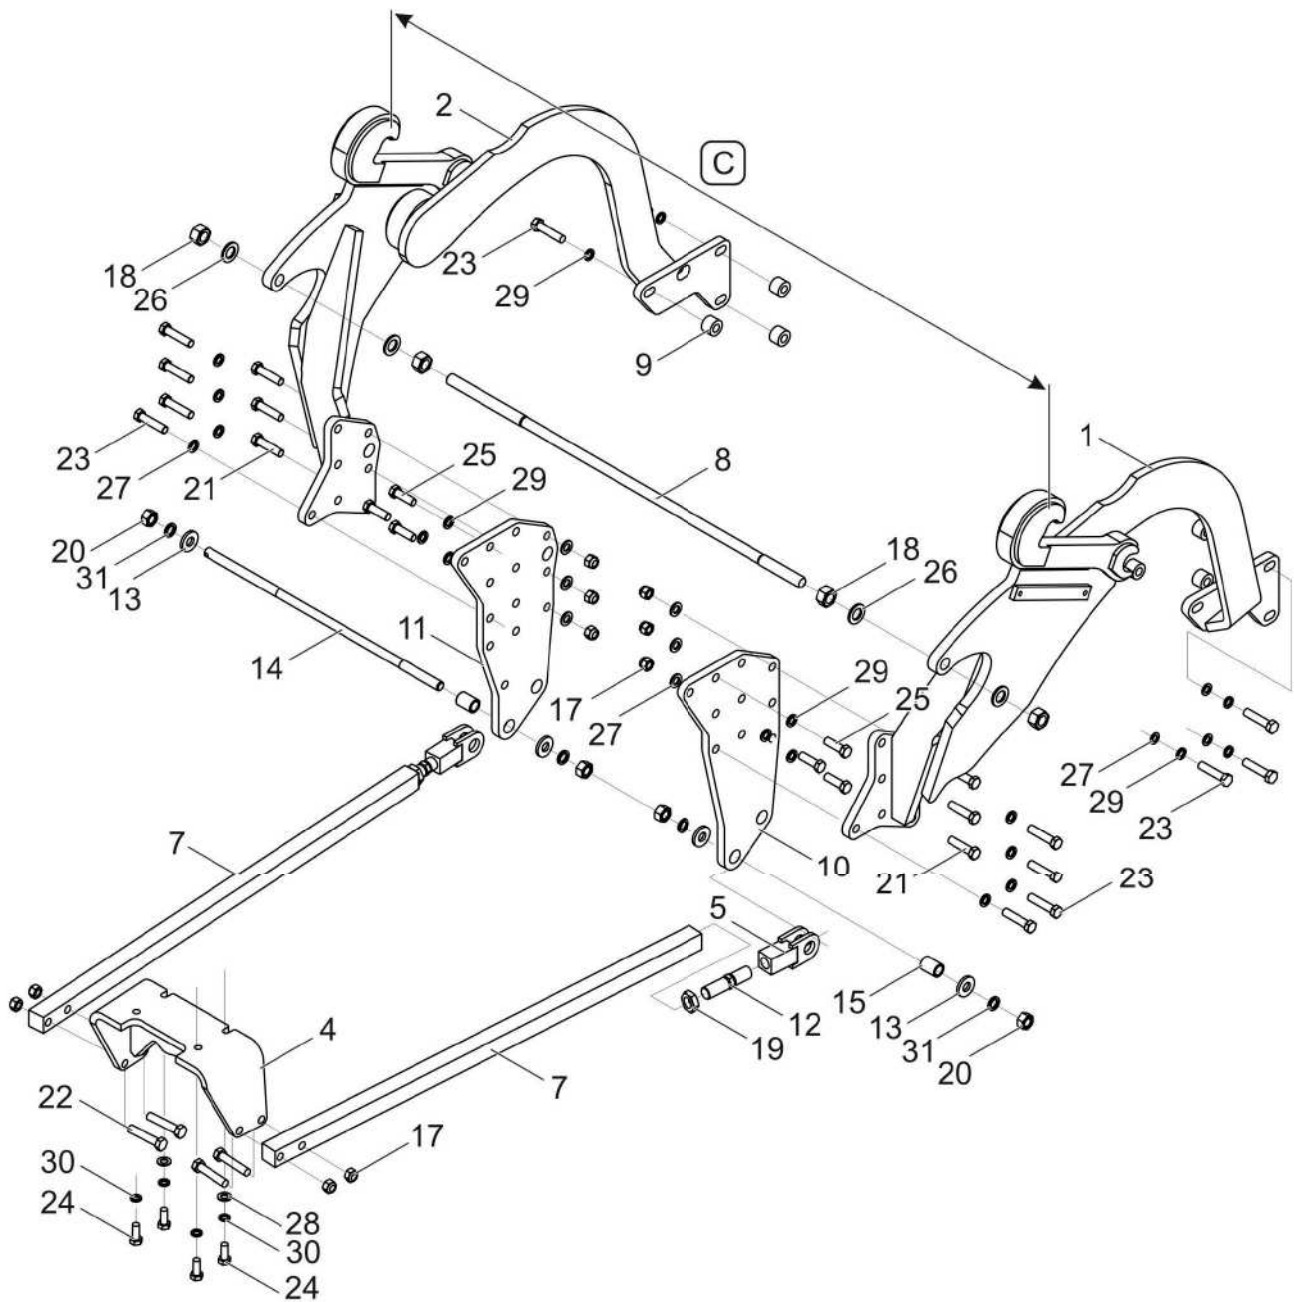

FIG. 4.2A **Mounting bearing frame on Pronar 5110/5130 tractors**
(1)- right bracket; (2)- left bracket; (4)- brace bracket; (5)- brace rod eye; (7)-brace rod; (8)- upper securing rod; (9)- sleeve; (10)-intermediary panel R; (11)- intermediary panel L; (12)- double ended bolt; (13)- special washer; (14)- securing rod; (15)- sleeve; (17)- M16 nut; (18)- M24 nut; (19)- M27x2 nut; (20)- M20 nut; (21)- M16x65 bolt; (22)- M16x80 bolt; (23)- M16x70 bolt; (24)- M14x35 bolt; (25)- M16x45 bolt; (26)- 24-100HV washer; (27)- 16-100HV washer; (28)- 10-100HV spring washer; (29)- Z 16.3 spring washer; (30)- Z 14.2 spring washer; (31)- 20.5 washer; (C)- correct distance between side surfaces of bracket hooks (~ 914 mm)
In Pronar 5110/5130 tractors (FIG. 4.2A) front part of brackets (1) and (2) screw down to front axle bracket using bolts (23) with washers (29) and (27). In tractors without front three-point linkage apply sleeves (9), *intermediary panel right* (10) and *left* (11). Brace bracket (4) is mounted to driving axle using bolts (24), washers (30) and (28). To bracket (4), with bolts (22) using nuts (17) screw down brace bracket (7), to which securing rod (14) through sleeves (15) is connected to brackets (1) and (2) using nuts (20) and washers (13) and (30). Make certain that double ended bolts (12) are uniformly screwed out from brace rods (7) and brace eye (5). Upper securing rod (8) shall be secured using nuts (19) and washers (25) in order to obtain between side surfaces of bracket hooks (1) and (2) the distance C - 914 mm. Eliminate slack from bearing frame screwing out double ended bolts (12) from brace rod (7) and brace rod eye (5), tightening counternuts (19).